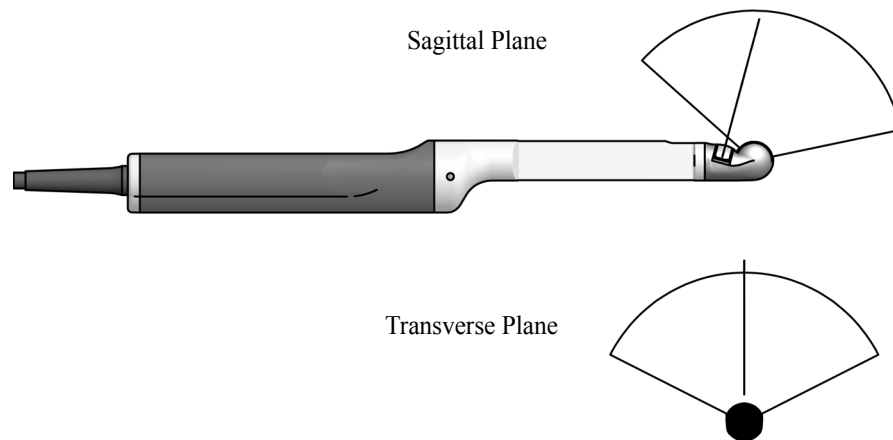

Figure 2. Imaging planes for Prostate Biplane Transducer Type 8808e.
The transducer contains two convex arrays — one for transverse (T) imaging, and one for sagittal (S) imaging (see Figure 2). The advantage of being able to view two planes simultaneously with one transducer is that the true position of the needle can be seen during puncture and biopsy and a suspicious lesion can be viewed in both planes.